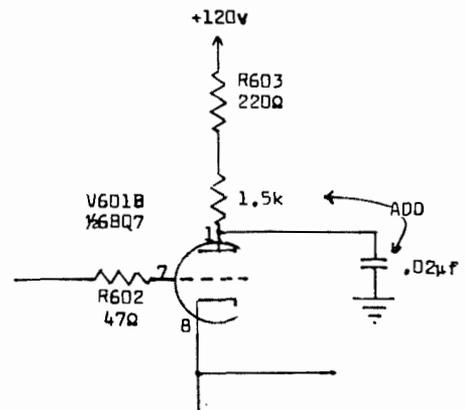

Figure 2. Type 524D/524AD Time-Mark Generator for serial numbers 1842 and below (partial schematic).
1. Refer to Figure 2. Decouple the 120 v plate supply of V601B by adding a 1.5 k, 1 w, 10% composition resistor (Tek no. 304-152) and a 0.02 μ f, 600 v discap (Tek no. 283-006) as shown in Figure 2.